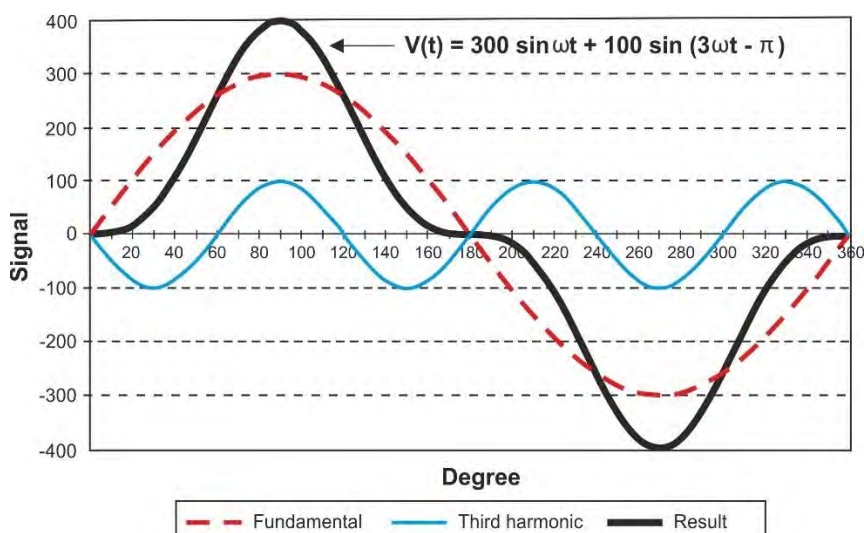

Fig. 88: Harmonic analysis – Effect of the sum of 2 multiple frequencies
It can be seen how in (1) the index of the sum goes from **1 to ∞** . What actually happens is that each signal does not have an unlimited number of harmonics: **there is always an order number beyond which the value of the harmonics is negligible**. The following Fig. 88 is an example of the superimposition of a 3rd order harmonic on a sinusoidal fundamental of a signal. The fact that the phase of the harmonic is in phase opposition produces a resulting signal that is significantly distorted and of greater amplitude than the fundamental, which could cause significant problems in the management of the protections.